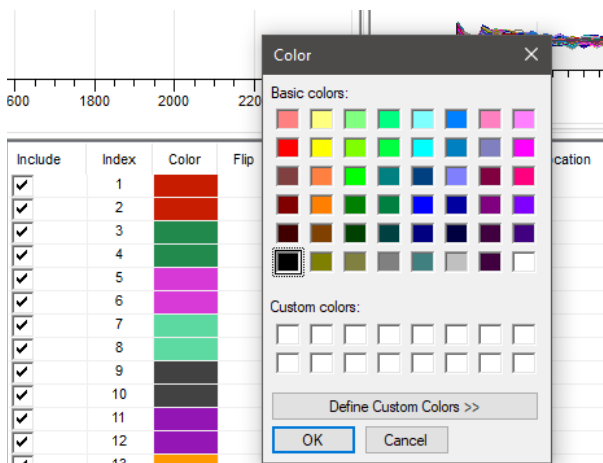

Figure 10-41: Set Color
- **Set Color** - Opens the color palette so you can change the color for the table row(s) currently selected (Figure 10-41). Select a color from the palette or define a custom color then click **OK**. The binding curve and table row colors automatically updates.